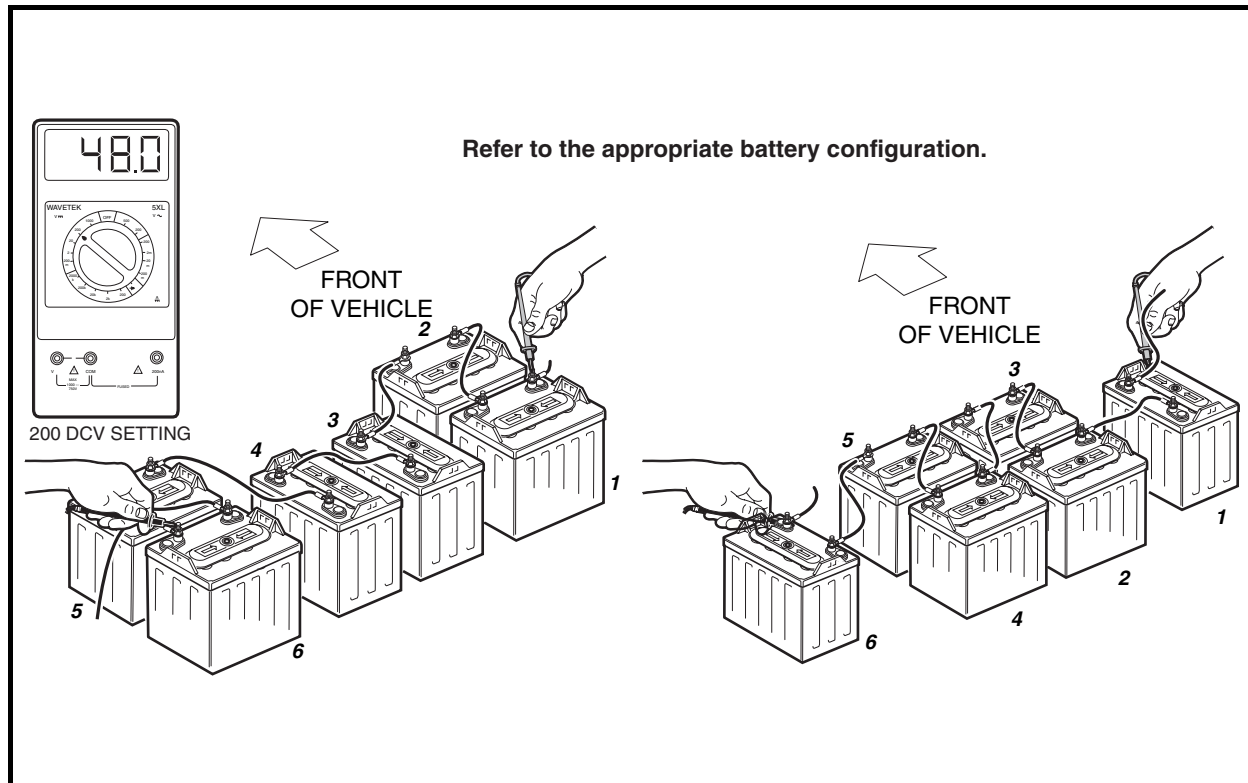

Figure 11-11 Battery Test
1. With batteries connected and using a multimeter set to 200 volts DC, place red (+) probe on the positive (+) post of battery no. 1 and the black (–) probe on the negative (–) post of battery no. 6 (**Figure 11-11, Page 11-16**). The multimeter should indicate at least 48 volts with the batteries fully charged. If not, check for loose battery connections or a battery installed in reverse polarity. The batteries are explained in detail in another section. See **Section 13 – Batteries**.